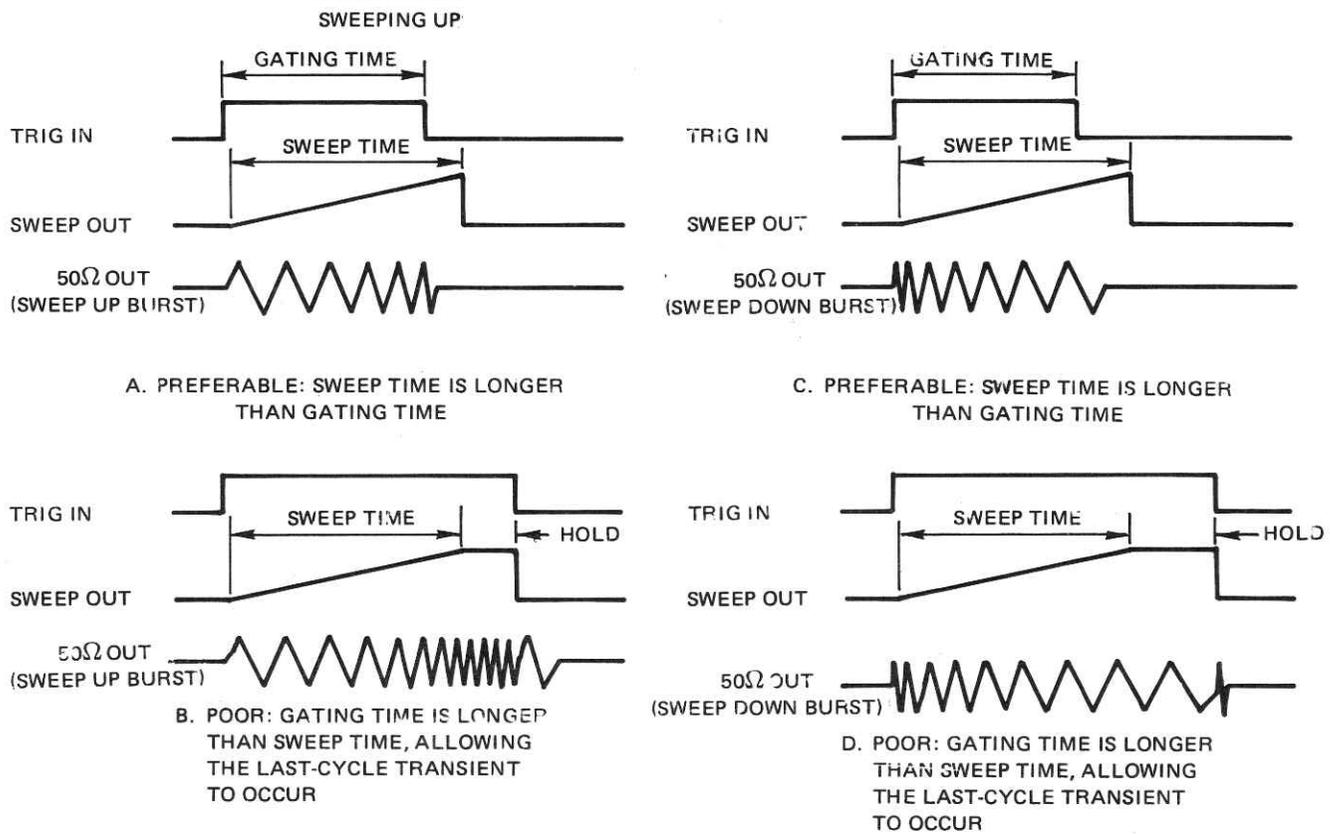

Figure 2-12. Sweep Burst Operation
5. For best results, the sweep limit should be set to longer than the duration of the burst to avoid the last-cycle transient due to the reset of the sweep signal. See Figure 2-12.